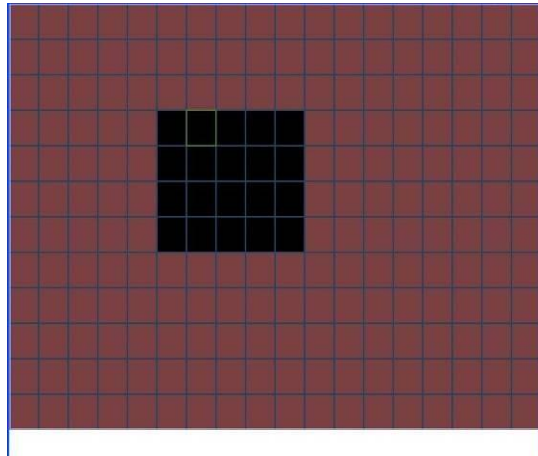

Figure 4-18
- Region: Click select button, the interface is shown as in Figure 4-18 Here you can set motion detection zone. There are 396(PAL)/330(NTSC) small zones. The green zone is current cursor position. Grey zone is the motion detection zone. Black zone is the disarmed zone. You can click Fn button to switch between the arm mode and disarm mode. In arm mode, you can click the direction buttons to move the green rectangle to set the motion
In ____Figure 4-18., you can left click mouse and then drag it to set a region for motion detection. Click Fn to switch between arm/withdraw motion detection. After setting, click enter button to exit.